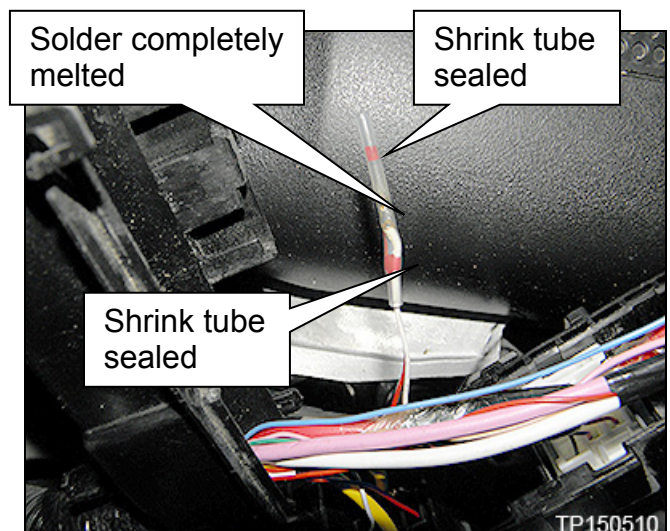

Figure 11
- Figure 11 shows completed solder connection.